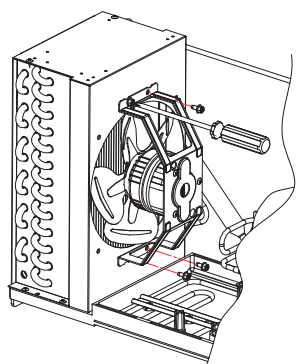

Fig 9-11
2. Loosen the bolts of the condenser fan motor assembly from the condenser. ( Fig 9-11)